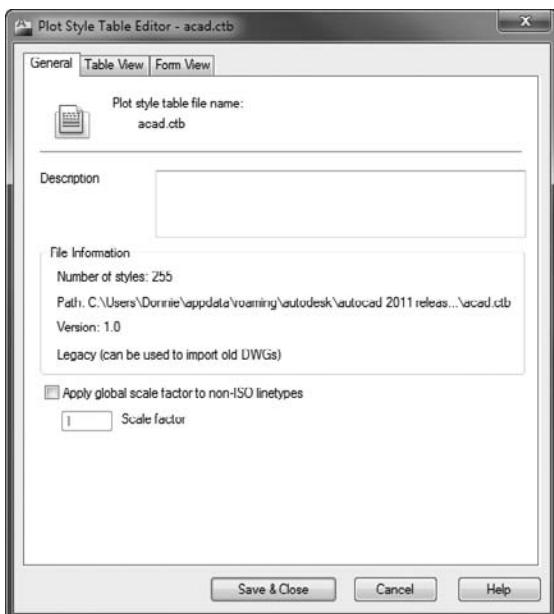

FIGURE 15.12 The General tab of the Plot Style Table Editor dialog box for the *acad.ctb* file
- Click the Edit button next to the drop-down list to open the Plot Style Table Editor dialog box with *acad.ctb* in its title bar (see Figure 15.12). This dialog box has three tabs. The General tab displays information and a Description text box for input.